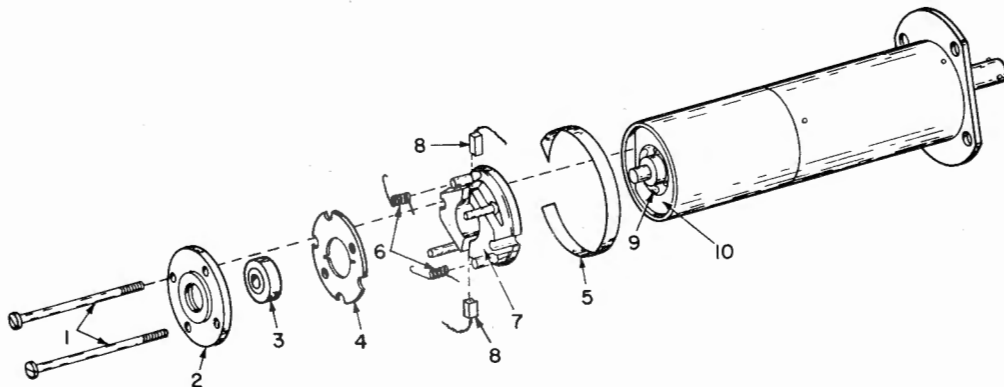

Figure 3-14. R-F Tuner, Band Motor, Exploded View
(9) Any of the band switches (S1 through S17) may be removed by unsoldering any connecting wires, expanding the spring clips mounts, and removing the switch.
j. DISASSEMBLY BAND SWITCH MOTOR. - Refer to figure 3-14 and disassemble motor in order of index numbers starting with number 1.